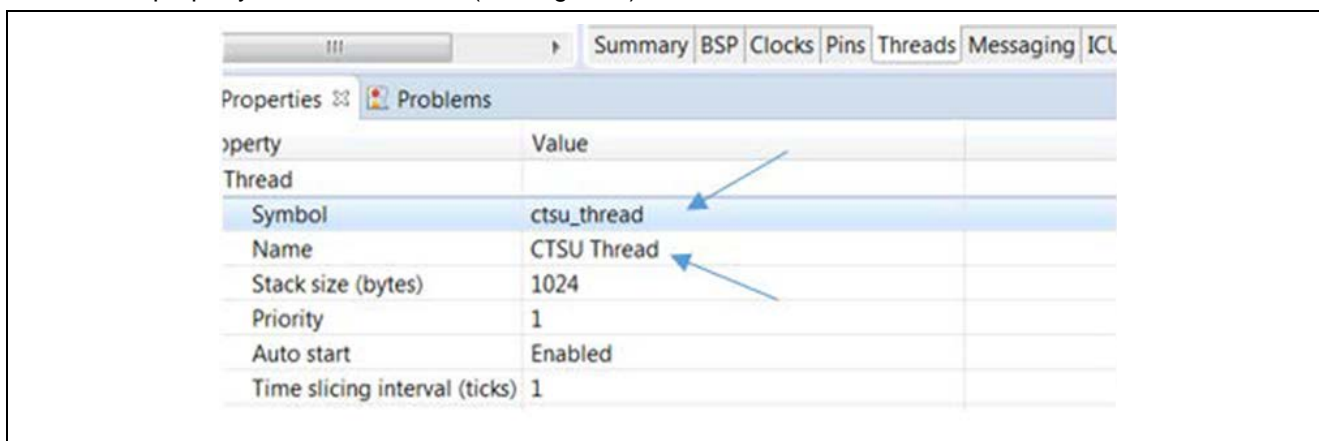

Figure 6. CTSUs Thread Properties
2. Set the property of the new thread (see Figure 6).